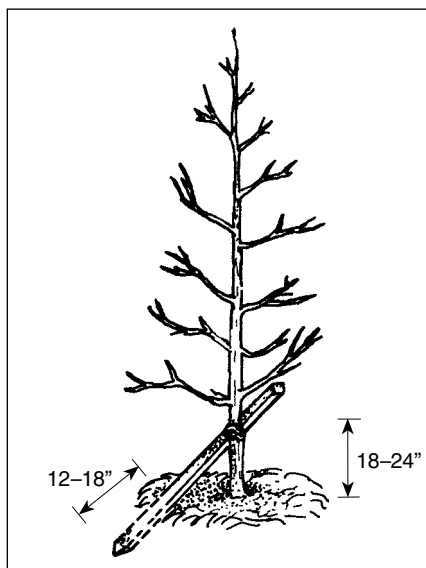
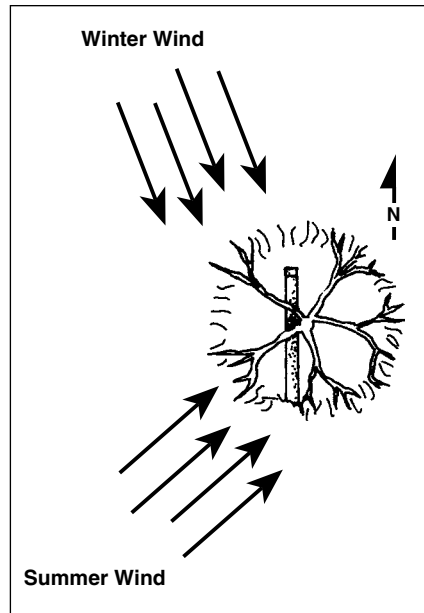
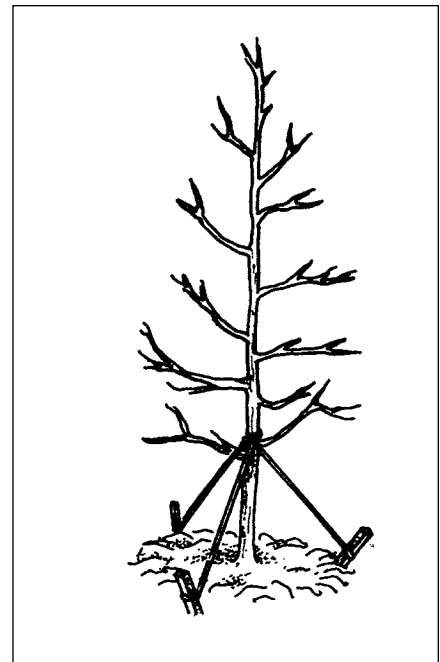

Figure 1. When staking, support the tree 18 to 24 inches above the ground.
Figure 2. When staking a tree, place the stake so the prevailing winds move the tree away from the stake.
Figure 3. The three-way guying system should be used on larger deciduous and upright evergreens trees.
Most deciduous trees 5 to 6 feet or larger are candidates for staking when planted on an exposed site. The larger the tree, the more important it is to provide extra support. Usually, a deciduous tree up to 1½ to 1¾ inches in caliper (10 to 12 feet in height) can be staked using the method illustrated in Figure 1. A tree larger than this will need to be supported by a three-way guying system (Figure 3).
On exposed sites, stake deciduous and upright evergreen trees immediately after planting with a 2 × 2-inch × 5-foot stake as follows: (1) position the stake along the west side of the tree so the prevailing winds will move the tree away from the stake (Figure 2.); (2) drive the stake (pointed on the downward end) 12 to 18 inches into undisturbed soil outside the planting pit at a 45-degree angle, crossing and supporting the trunk 18 to 24 inches above the soil surface (Figure 1); (3) secure the trunk to the stake using commercial ties or a wire tie protected by a rubber/vinyl length of hose or pad in a loose figure eight shape so the bark will not be injured and the trunk will not rest against the stake.
guyed immediately after planting with a three-way system (Figure 3). Drive three 2 × 2 × 18-inch support stakes 10 to 12 inches into the ground at approximately 120 degrees from each other, outside the planting pit. Position stakes so that guy wires will be located at 45- to 60-degree angles from the ground.